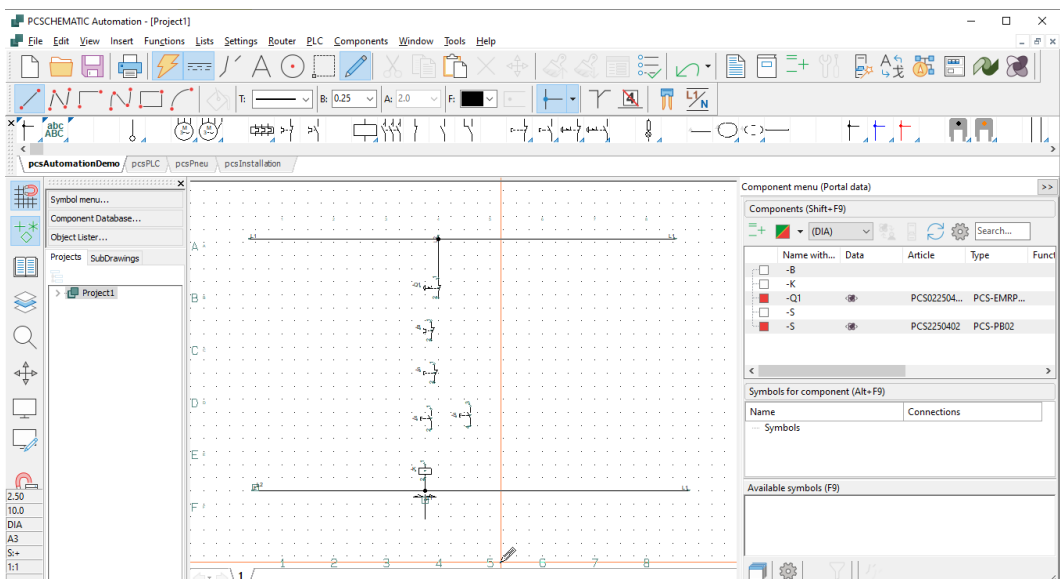

Figure 6.48 – One end of the emergency stop switch joined to L1 and one end of the contactor coil joined to N
14. Use the line tool to join one end of the emergency stop switch to line L1 and join one end of the contactor coil to N, as shown in *Figure 6.48*: